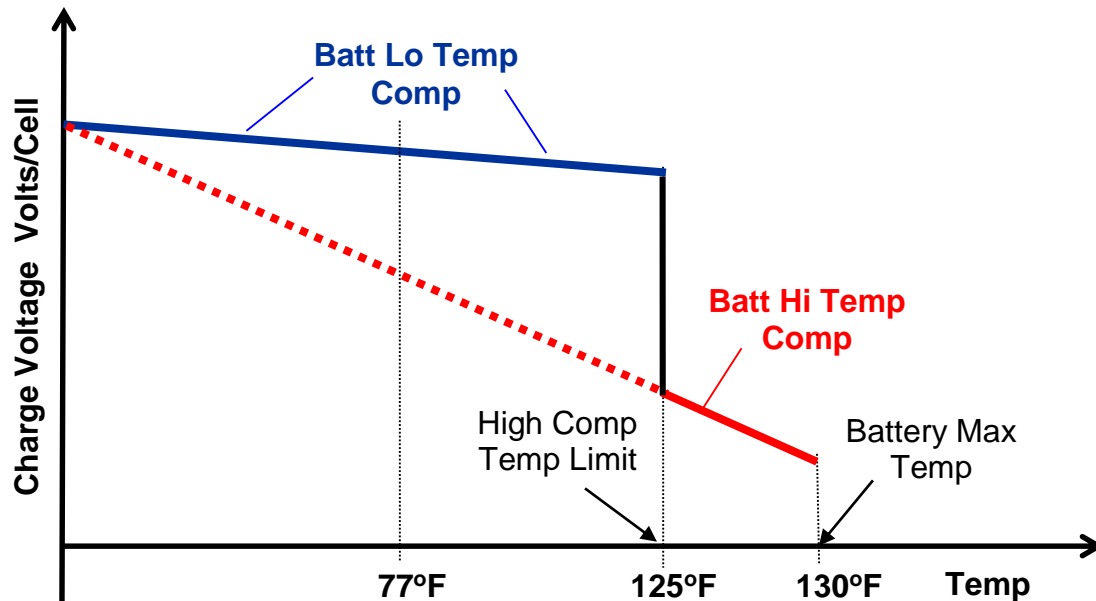

Figure B1: Temperature compensation regimes
1. The low battery compensation coefficient (**Batt Low Temp Comp**) is activated when the battery temperature is different than 77°F, but lower than the high compensation temperature limit (**High Comp Temp**) (Figure B1).
2. The battery high compensation coefficient (**Batt High Temp Comp**) is activated when the battery temperature is higher than the high compensation temperature limit (**High Comp Temp**) (Figure B1).